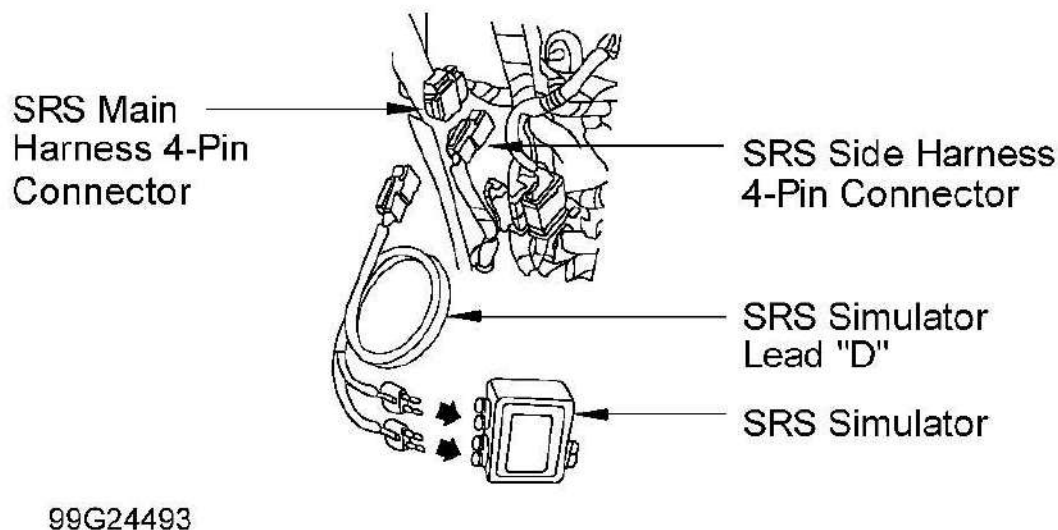

Fig. 28: Locating Left Side Wire Harness Connector
3. Disconnect negative battery cable and wait 3 minutes. Disconnect SRS side harness 4-pin connector (located under center console, between SRS unit and rear blower motor, clipped to instrument panel support) from SRS main harness 4-pin connector. See **Fig. 28** . Connect SRS Simulator Lead "D" (07XAZ-SZ30100) and SRS Inflator Simulator (07SAZ-TB4011A) to SRS main harness 4-pin connector. Reconnect negative battery cable. Erase DTC memory. Retrieve DTCs. If DTC 3-1 is indicated, go to next step. If DTC 3-1 is not indicated, replace left SRS side harness.
3. Disconnect negative battery cable and wait 3 minutes. Disconnect SRS main harness 4-pin connector from left SRS side wire harness connector. See **Fig. 28** . Connect SRS Simulator Lead "D" (07XAZ-SZ30100) and SRS inflator simulator to SRS main harness 4-pin connector. Reconnect negative battery cable. Erase DTC memory. Retrieve DTCs. If DTC 3-3 is indicated, go to next step. If DTC 3-3 is not indicated, replace left side wire harness.
3. Disconnect negative battery cable and wait 3 minutes. Disconnect SRS main harness 4-pin connector from left SRS side wire harness connector. See **Fig. 28** . Connect SRS Simulator Lead "D" (07XAZ-SZ30100) and SRS inflator simulator to SRS floor harness 4-pin connector. Reconnect negative battery cable. Erase DTC memory. Retrieve DTCs. If DTC 3-4 is indicated, go to next step. If DTC 3-4 is not indicated, replace left side wire harness.
3. Disconnect negative battery cable and wait 3 minutes. Disconnect SRS main harness 4-pin connector from left SRS side wire harness connector. See **Fig. 28** . Connect SRS Simulator Lead "D" (07XAZ-SZ30100) and SRS inflator simulator to SRS main harness 4-pin connector. Reconnect negative battery cable. Erase DTC memory. Retrieve DTCs. If DTC 3-5 is indicated, go to next step. If DTC 3-5 is not indicated, replace left side wire harness.